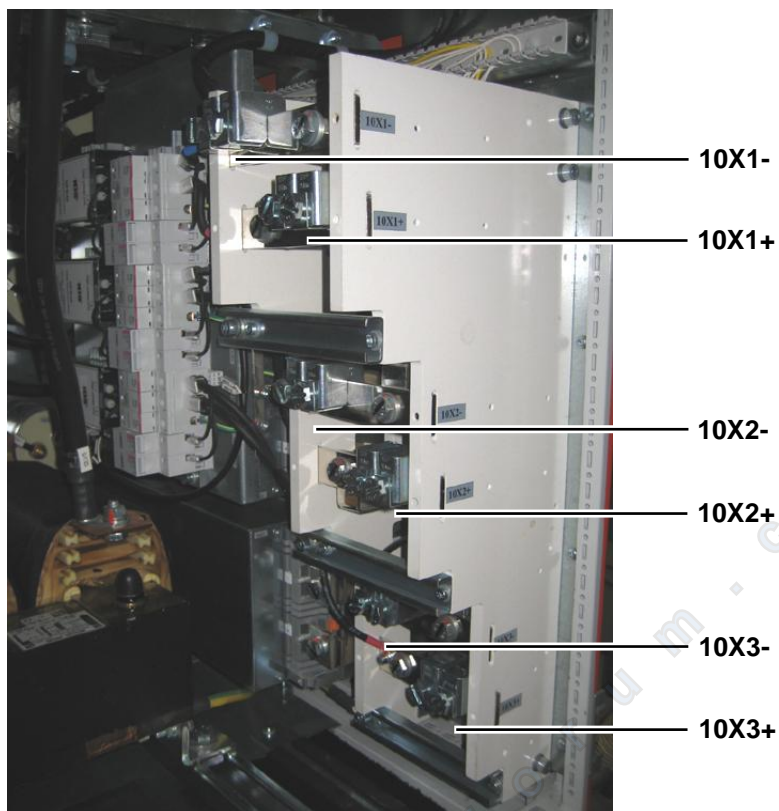

Figure 4.9 PV input power terminals (see also Figure 4.7-1)
*Table 4.3 PV input power connections (see Figure 4.9)*